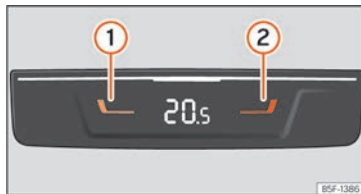

Fig. 152 In the rear part of the centre console: controls for the rear seats.
- Press buttons ① and ② »» Fig. 152 to adjust the temperature of the rear zone.